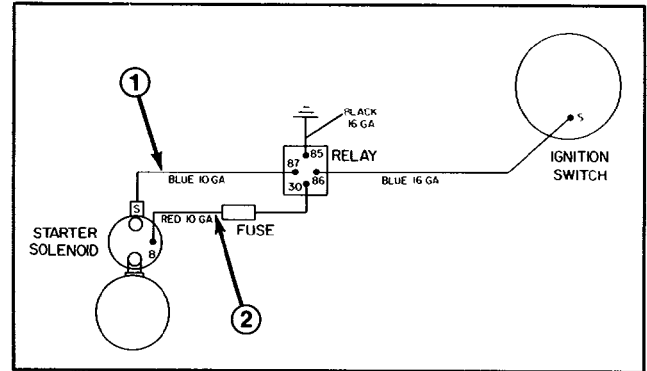

Figure 2
4. Remove the blue wire from the starter solenoid terminal and replace it with the blue wire with the spade connector from the starter relay (Fig. 2).
6. Remove the nut securing the red wire to the starter solenoid. Install the red wire from the starter relay, re-install and tighten the nut (Fig. 2).
5. Remove the blue wire from the starter solenoid terminal and replace it with the blue wire with the spade connector from the starter relay (Fig. 2).
7. Remove the nut securing the red wires to the starter solenoid. Install the red wire from the starter relay, re-install and tighten the nut (Fig. 2).
7. Remove the nut securing the red wire to the starter solenoid. Install the red wire from the starter relay, re-install and tighten the nut (Fig. 2).